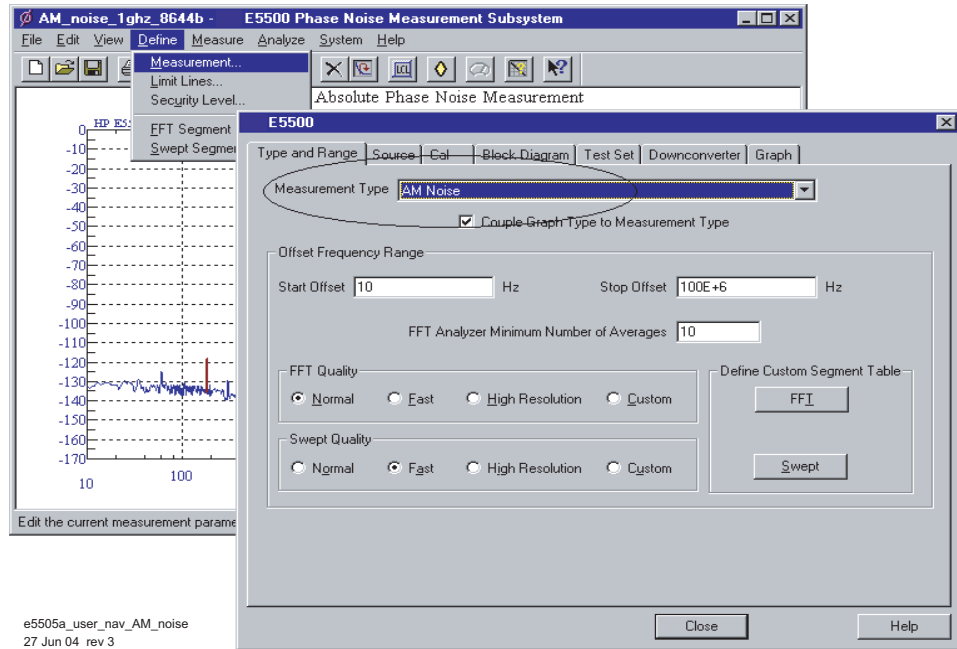

Figure 239 Navigate to AM noise
- 6 From the Measurement Type pull-down, select **AM Noise**. See Figure 239 on page 314